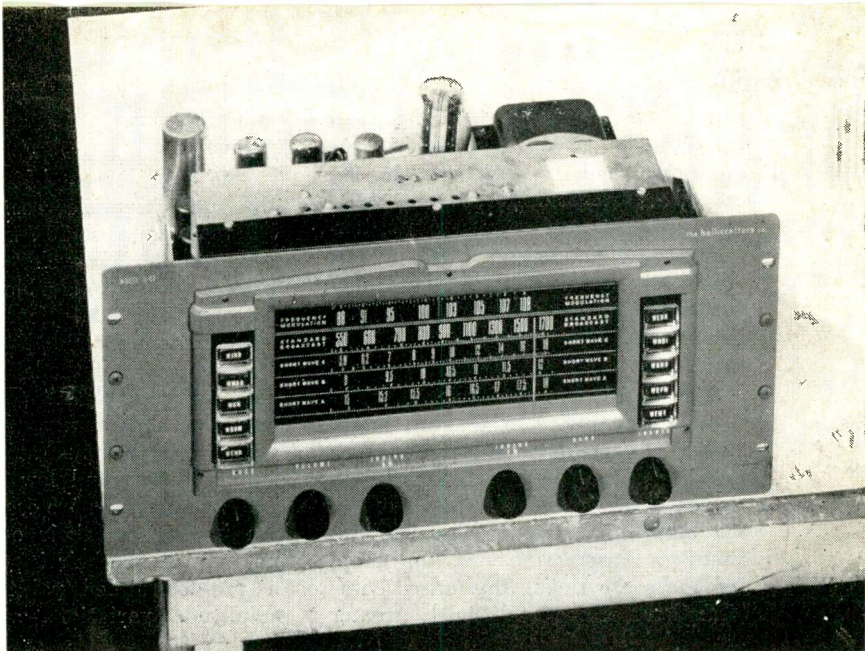

Fig. 1. The Hallicrafter S-41 High Quality Tuner.
Unlike units previously described in this series, we have in this flexible chassis, equipment which tunes five different FM and AM bands, (Fig. 1). The five bands in order of rotation in the switching system, plus phono pick-up facilities are:
As can be seen from the photo (Fig. 1), both manual and pushbutton tuning awaits one's choice. Provision is at hand for an external long wire antenna (AM) or a 300 ohm folded dipole (FM). Input circuits from antenna terminals connect to balanced FM and seriesed AM coils.